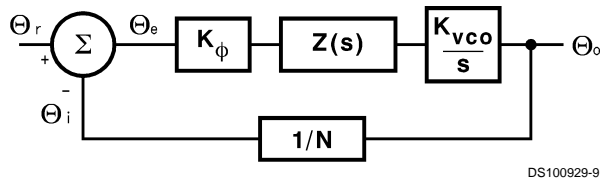
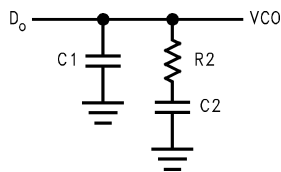

FIGURE 2. PLL Linear Model
FIGURE 3. Passive Loop Filter
A linear control system model of the phase feedback for a PLL in the locked state is shown in *Figure 2*. The open loop gain is the product of the phase comparator gain (K_{ϕ}), the VCO gain (K_{VCO}/s), and the loop filter gain $Z(s)$ divided by the gain of the feedback counter modulus (N). The passive loop filter configuration used is displayed in *Figure 3*, while the complex impedance of the filter is given in *Equation (2)*.